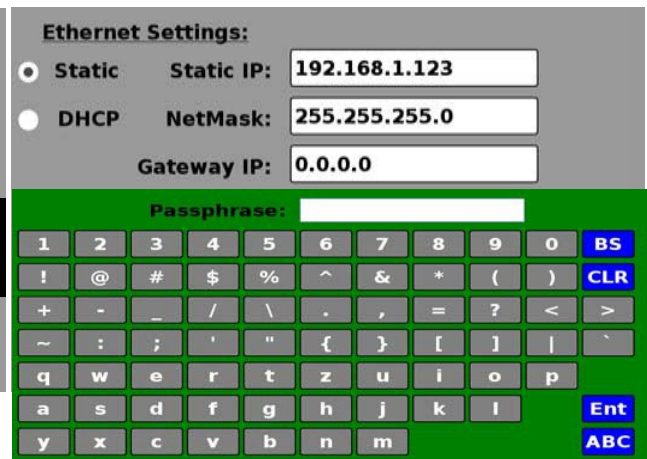

FIGURE 34
- 2) Static is a manual connection for data acquisition software that needs a specific IP address to communicate. Press the static IP box to open the keypad screen (Figure 34). Enter your IP address press Ent to close. Press Netmask box and enter the Netmask value. Note: If configuring a STATIC IP for Ethernet and there is NO Gateway, then enter 0.0.0.0 for Gateway address. NOTE: After any WiFi configuration you must restart the display from the Main Menu button 8 shown on page 11 to access the IP address.